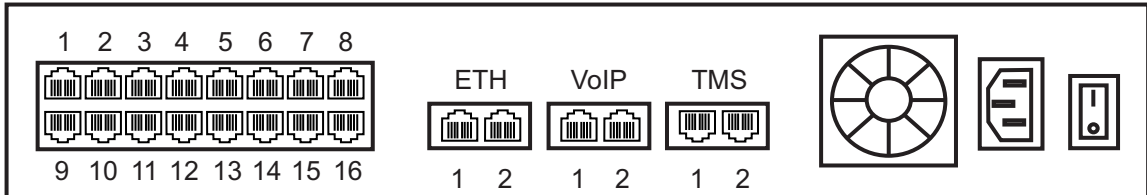

Figure 2.7 16-Port Interface to the PSTN
A TMP6400 with 16 RJ48 type ports enables the connection to T1/E1/J1 lines. The termination impedance is set at 100 ohms for T1 lines and 120 ohms for E1 lines. It is possible to connect an external balun in order to convert to 75 ohms. See figure 2.7 on page 17
1. Start with port 1 located at the top and left-most position. Connect one cable between this port and the T1/E1/J1 line (figure 2.7 on page 17).